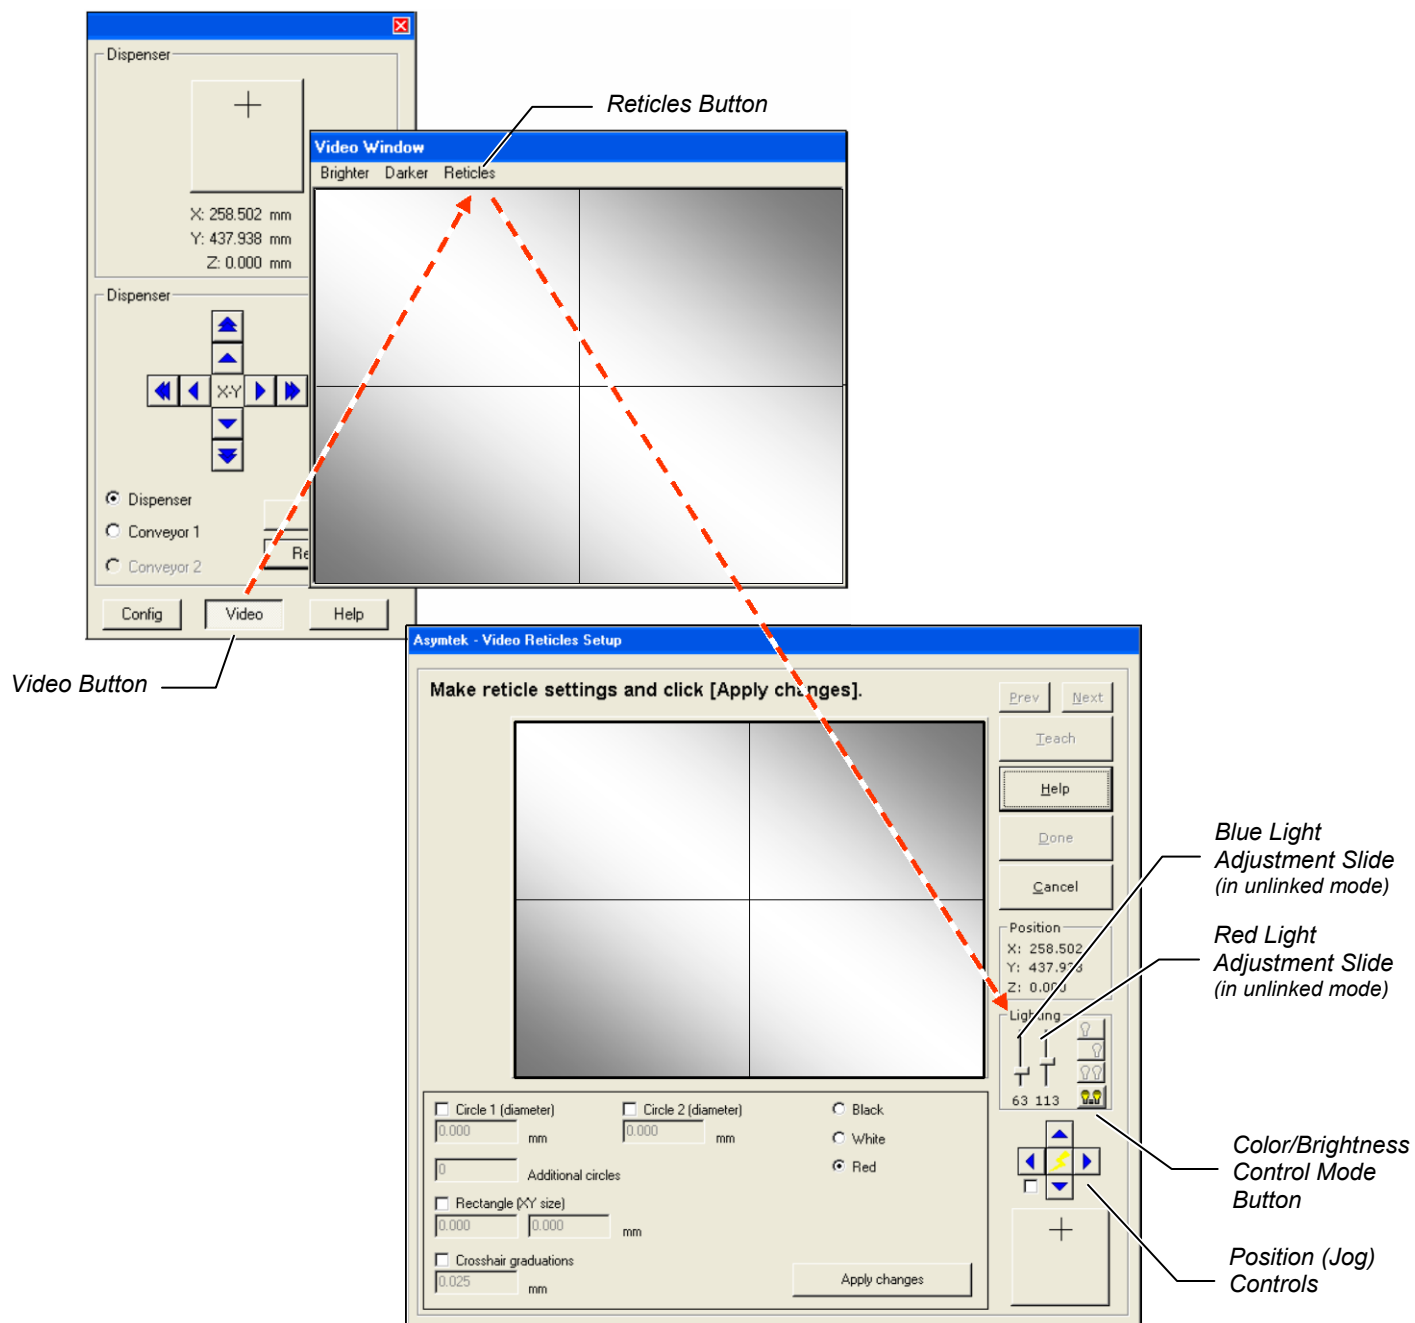

Figure 3-8 Camera Lighting Adjustment
4. Click on **Reticles** (Figure 3-8).